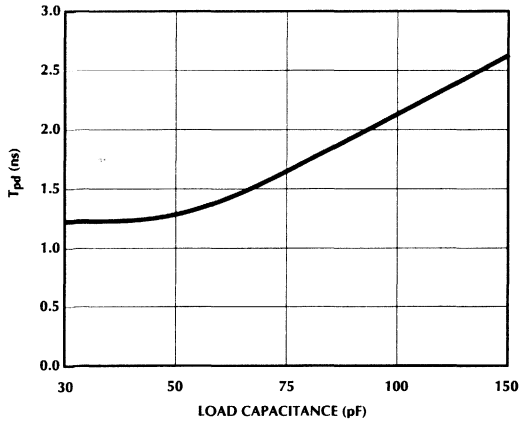

Figure 3. Propagation Delay ( $t_{PLH}$ ,  $t_{PHL}$ ) Versus Load Capacitance, One Output Switching.
**Note 5:** One line switching, see figure 3,  $t_{PLH}$ ,  $t_{PHL}$  versus  $C_L$ .